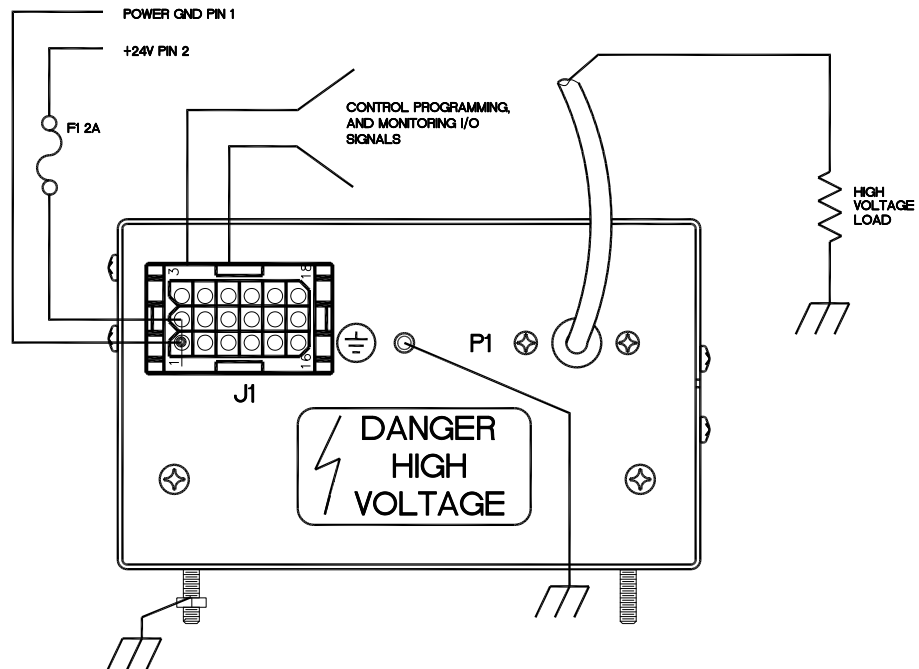

Figure 3.1 CZE1000 Typical Operating Set Up
C) **PROPER GROUNDING TECHNIQUE:** The chassis of high voltage power supplies must be grounded, preferably to a water system ground using copper pipe or other earth ground. See Figure 3.1 and 3.2 for a typical operating setup. The return line from the load should be connected to the power supply chassis or to Load Return pin.